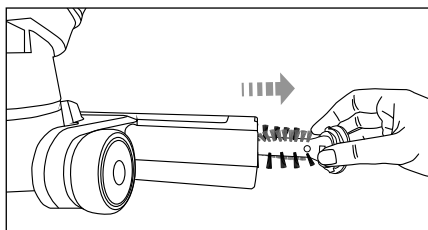

Fig. 8
- 3) Pull the rotary brush **18** out of the floor nozzle **16** (Fig. 8).